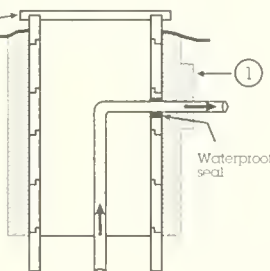

figure 1
Ontario Regulation 903 outlines the construction requirements for installing pumps and equipment in water wells. Figure 1 shows various configurations of pump-discharge connections based on the requirements. The following explanations summarize and clarify in more detail each of the construction requirements.
- 1] A pump discharge connection to or through the side well casing below the ground surface must be watertight. Connection to a drilled well casing must be made through a commercially manufactured pitless well adaptor or pitless well unit and the top of the casing equipped with a commercially manufactured well cap [Figure 1(c)]. Connection to or through the top of the casing in a bored or dug well [Figure 1 (e)] or the wall of a well pit [Figure 1(d)] must be sealed with a durable, non-toxic sealing material and the top of the casing or well pit equipped with a durable, tight-fitting well cover.
must be made through a sanitary well seal [Figure 1(b)]. If the pump is directly mounted on the casing [Figure 1(a)], shield the top of the casing to prevent contamination from entering the well. A well connection through the top of a well casing cut-off below the ground surface in a well pit must be through a commercially manufactured sanitary well seal [Figure 1 (d)]. The top of a well casing and a well seal may not be completed and buried below the ground surface.
- 3] If disturbed during pump installation the formation seal [Figure 1], and any joint seal on the well casing must be restored according to regulations. Any modifications or changes to the well head or casing must also be made according to regulations. The contractor should advise the homeowner of the modifications.
- 4] Well pits that are subject to the inflow of ground-water or surface water must be provided with adequate drainage, or equipped with automatic sump pump equipment [Figure 1(d)].
① = Formation seal in annular space
- 6] For the proper operation of the well pump, the well must be vented to equalize the pressure between the inside of the well casing and the atmosphere. The venting requirements are detailed in Section 18 and are shown in a typical installation in Figure 1. Special venting may be